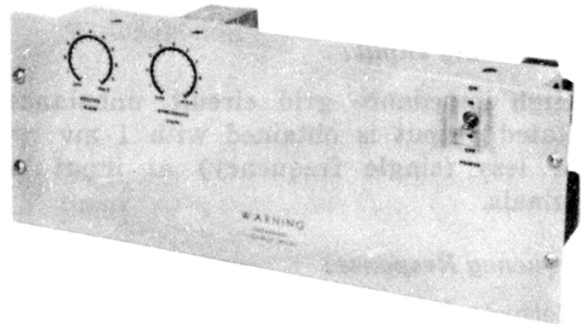
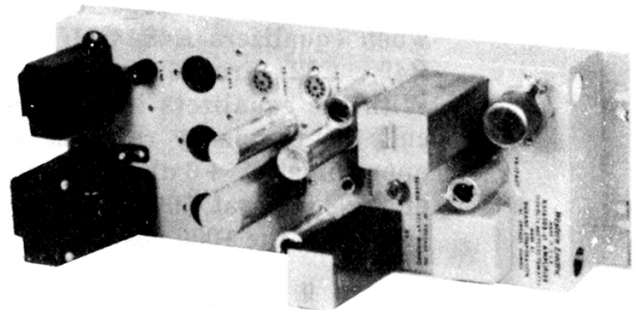

Fig. 1 — Front View
Fig. 2 — Rear View
1.04 Fig. 1 shows a photograph of the front view of the amplifier with the front cover (cover mat) assembled. Fig. 2 shows a rear view